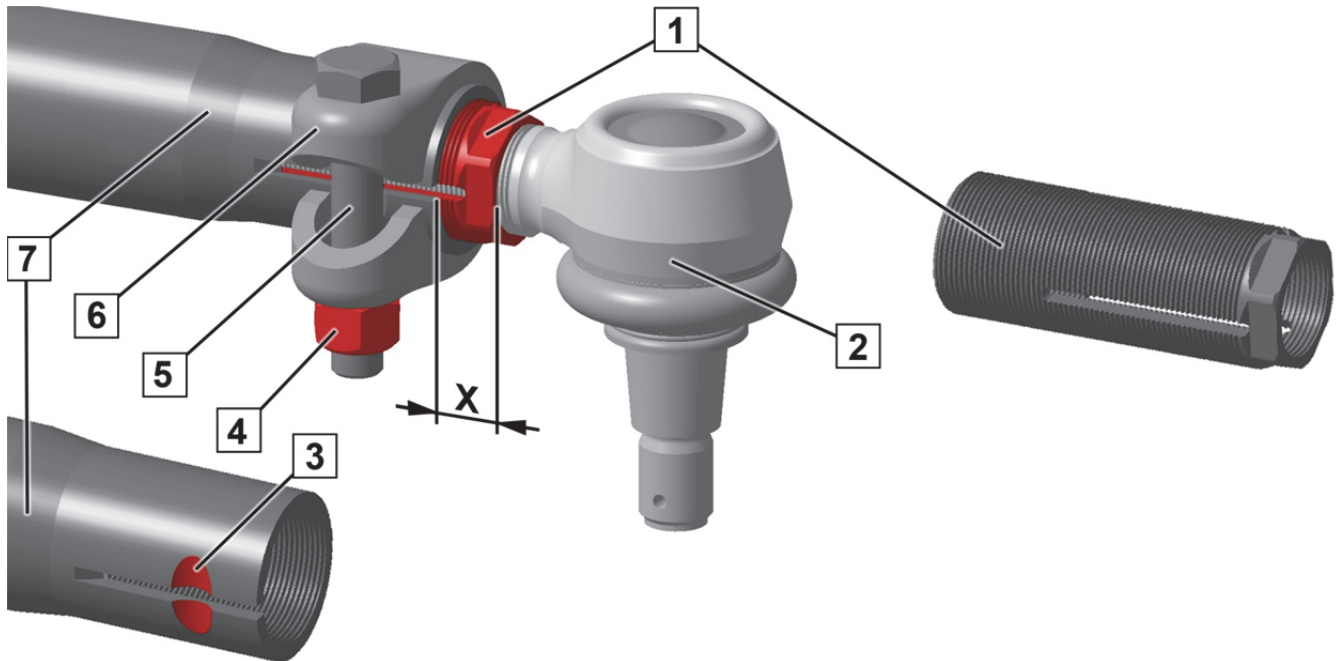

Fig. 1: Fine-tuning system
After adjusting the spur, the threaded sleeve (1) must protrude by the dimension **X** from the tube (7). Dimension **X** (Fig. 1):